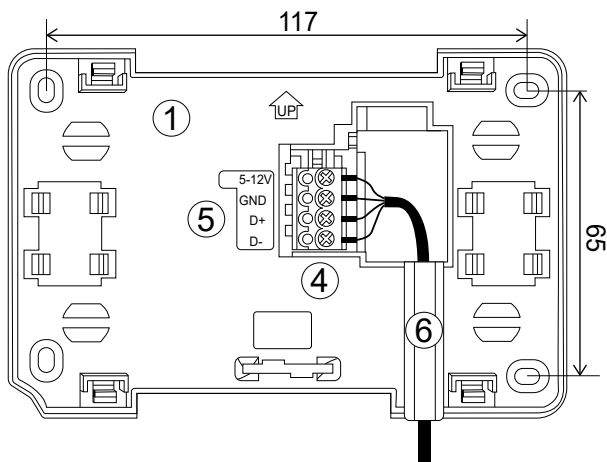

Figure 3-4: Mounting plate wiring
3. Connect the cable to the screw terminal as described on the plate. Refer to Figure 3-4 The cable can be recessed in the wall or it can run over its surface - In this case the cable should be additionally placed in the cable channel.
4. Drill holes in the wall and use screws to fix the mounting plate in the chosen place of the wall, maintaining its proper position (Refer to Figure 3-4)